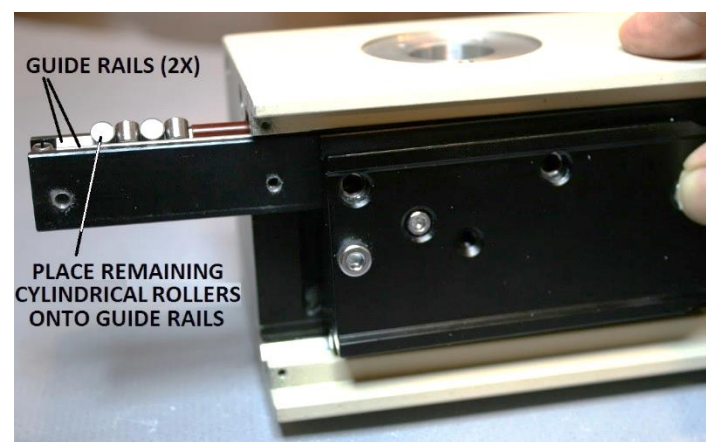

Figure 45 – Place remaining rollers onto upper guide rails
Lightly coat the remaining four cylindrical rollers with a suitable grease (item 5 or 7 of Appendix 2). Place these four greased cylindrical rollers onto the greased guide rails in the side channel of the guide block protruding from the left-hand side of the arm (see Figure 45, shown without grease for clarity). Orient the rollers as shown.
Place the four remaining cylindrical rollers onto the guide rails in the side channel of the guide block protruding from the left-hand side of the arm (see Figure 45). Orient the rollers as shown.